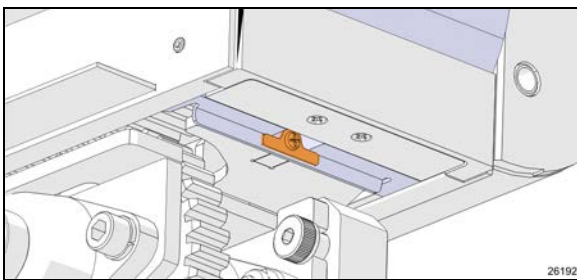

FIGURE 21: TAB AND RETAINING SCREW
If it is damaged or cracked, it must be replaced. The flexible cover is fixed by a tab and mounting screw. (Figure 21)
Unscrew the retaining screw (Figure 21)
3. Unscrew the flexible cover retaining screw (Figure 21)